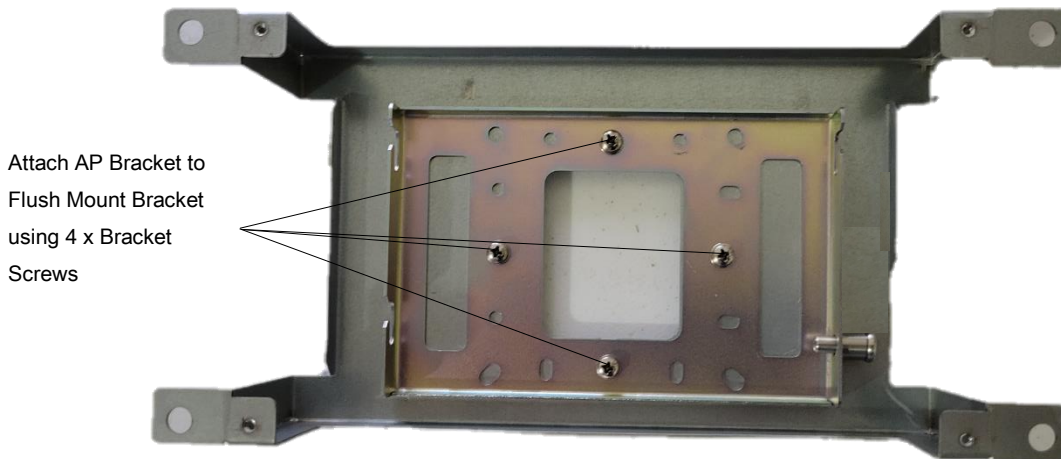

Figure 32: APV3-DAS - Mounting Standard Mounting Bracket to Flush Mount Bracket
- Install the APV3-DAS standard mounting bracket into the flush mount bracket using the (4) screws removed in the previous step. Ensure the standard mounting bracket is installed with the Spring-loaded Pin Lock on the right side. See Figure 32 below.